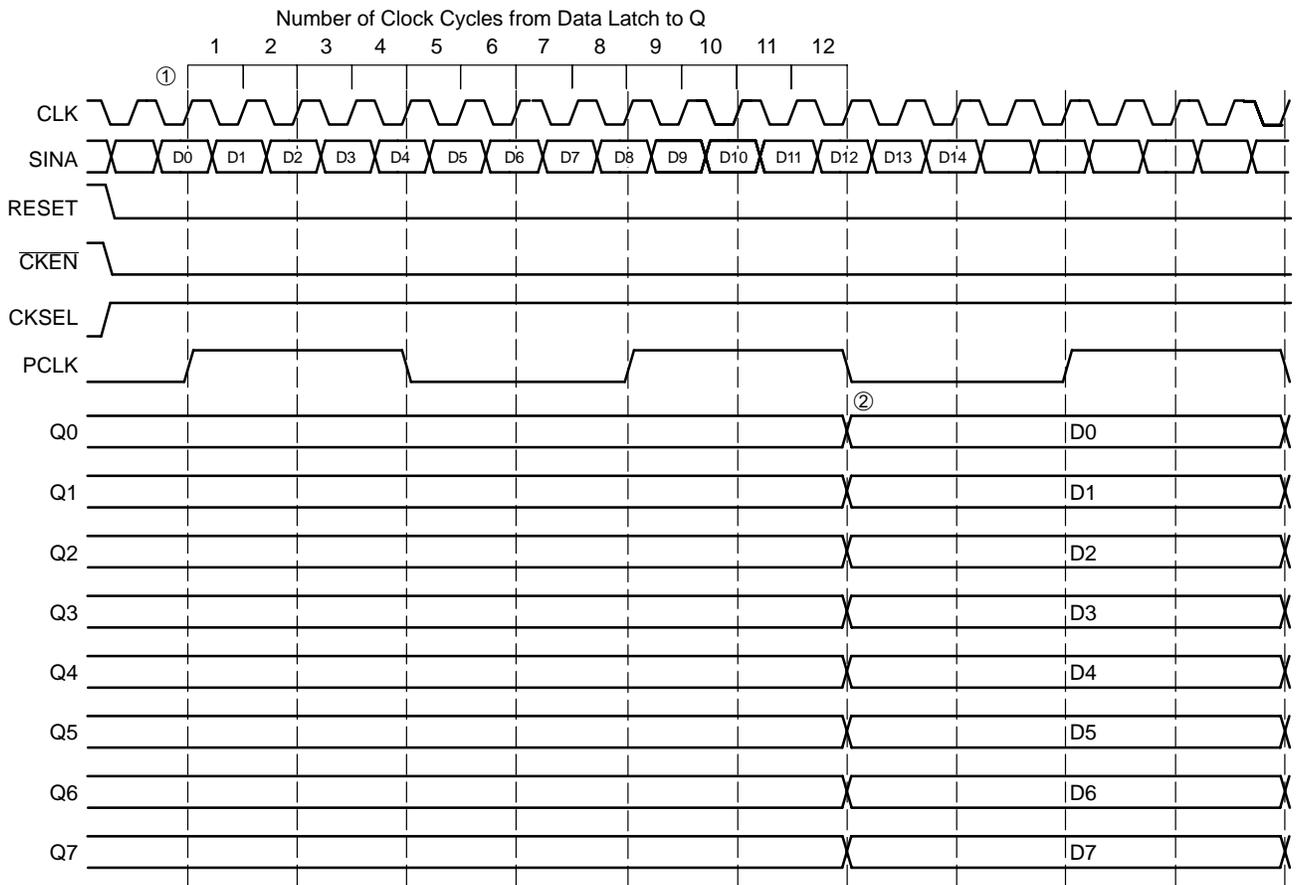

Figure 8. Timing Diagram A. 1:8 Serial to Parallel Conversion with CKSEL HIGH
the serial data is latched① to when the data is seen on the parallel output② is 12 clock cycles (see Figure 8).